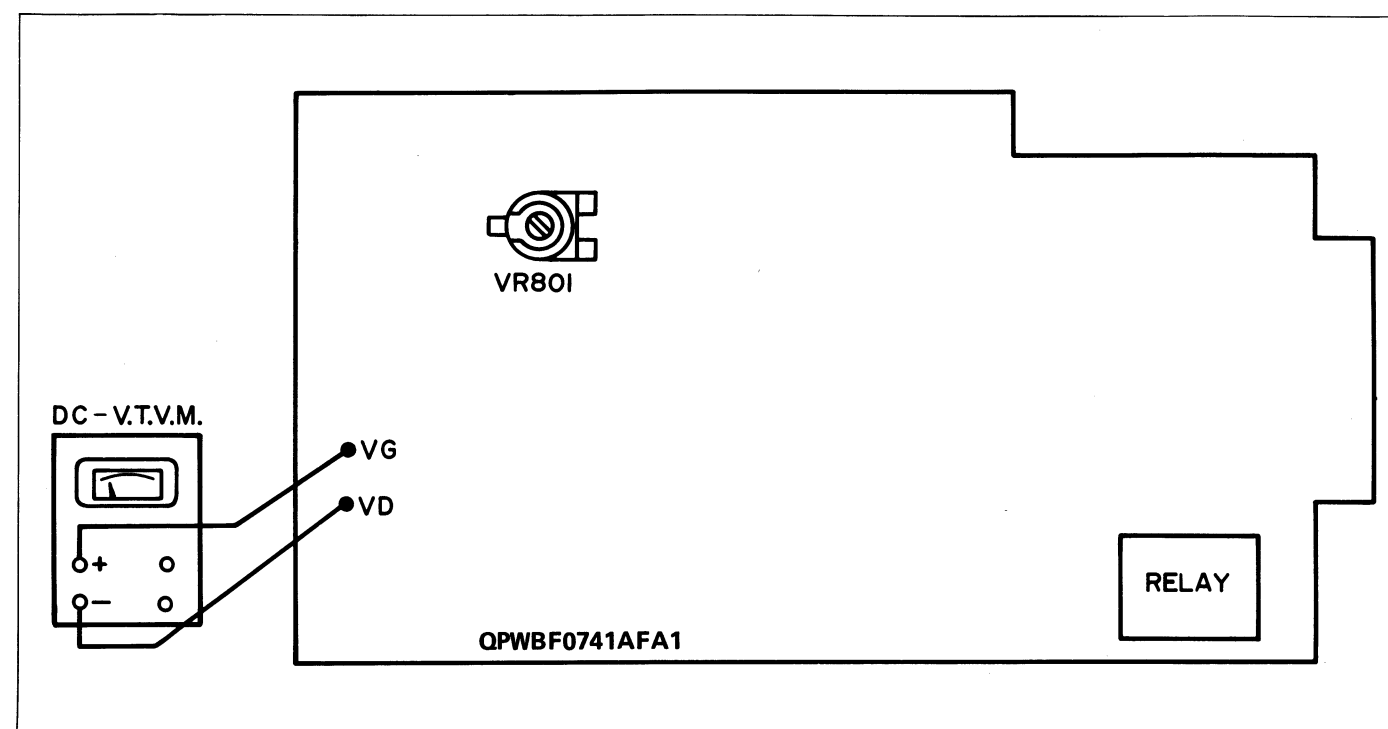
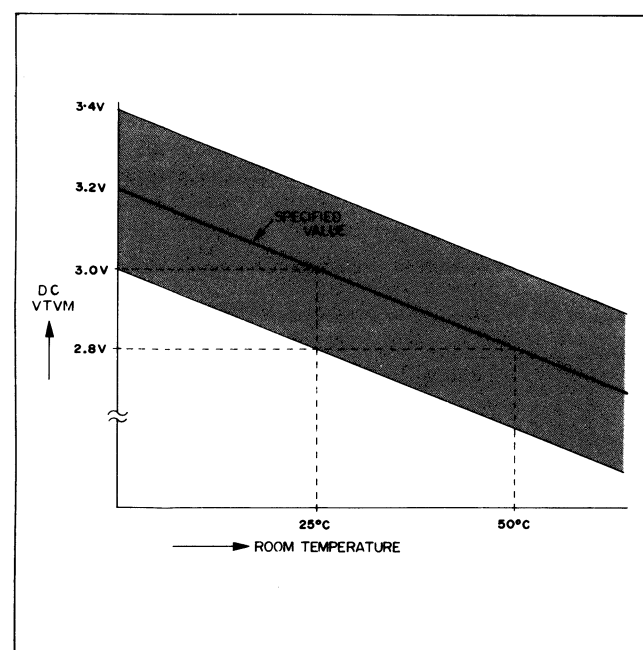

Figure 17
Figure 18
1. Prior to replacement of the control unit, be sure to check for its power supply source after disconnecting the flat cable. Insert the power supply plug into a wall outlet and use a DC-VTVM to measure a voltage between the terminals VG and VD of the power P.W.B. (QPWBF 0741AFA1). (See Figure 17) At the time make sure that the DC-VTVM is within the indication in Figure 18.
(Figure 18 shows the relation between the room temperature (in the horizontal axis) and the voltage amount indicated by the VTVM (in the vertical axis). Referring to the figure, check that the measured voltage is within ± 0.2 V of the specified value.)
The transistor (Q819) serves to change the supply voltage to the control unit as shown in Figure 18. This is for the purpose to make the LCD in the control unit visible normally always regardless of a temperature fluctuation in the room.